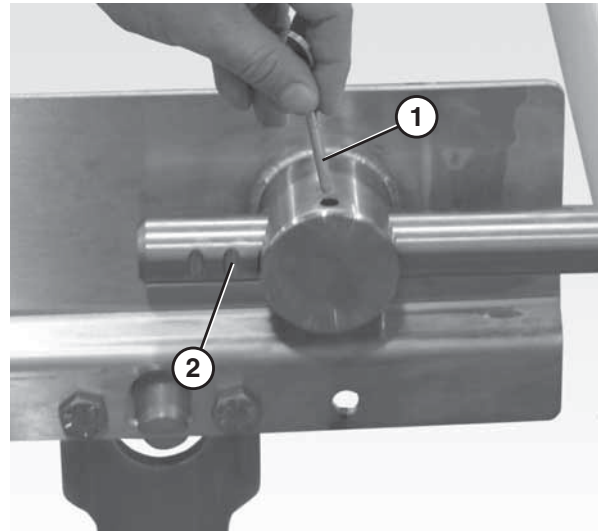

Figure 66
1. Remove both pull pins (**Figure 66, item 1**) on the tension end of the conveyor.
2. Extend the idler tail to the next groove (**Figure 66, item 2**) on the bearing shaft.